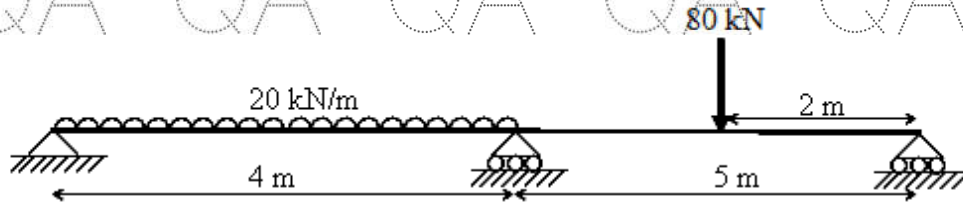

Figure 5
7. Using stiffness method, analyse the beam supported and loaded as shown in Figure 5. Assume EI is constant. [10]